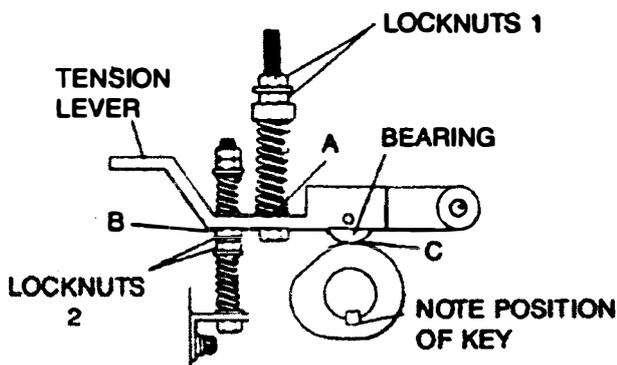

FIGURE 25. ADJUSTING TENSION LEVER
1. Manually turn the rotor of the electromagnetic clutch until the key, seen at the end of the cam shaft, is positioned as shown in Figure 25.